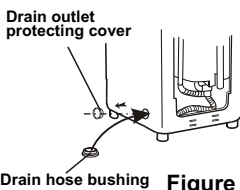

Figure 4
3. Dismantle the protecting cover of the drain outlet at the other side (method the same as the bushing). Install the bushing as per indicated in Figure 4.